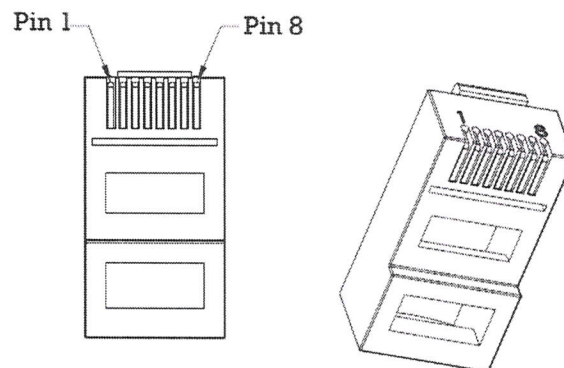

Figure 8
- ☞ Follow the assigned colors of the 24# x 3P wires for termination to the RJ45 Plug (see Figure 8)